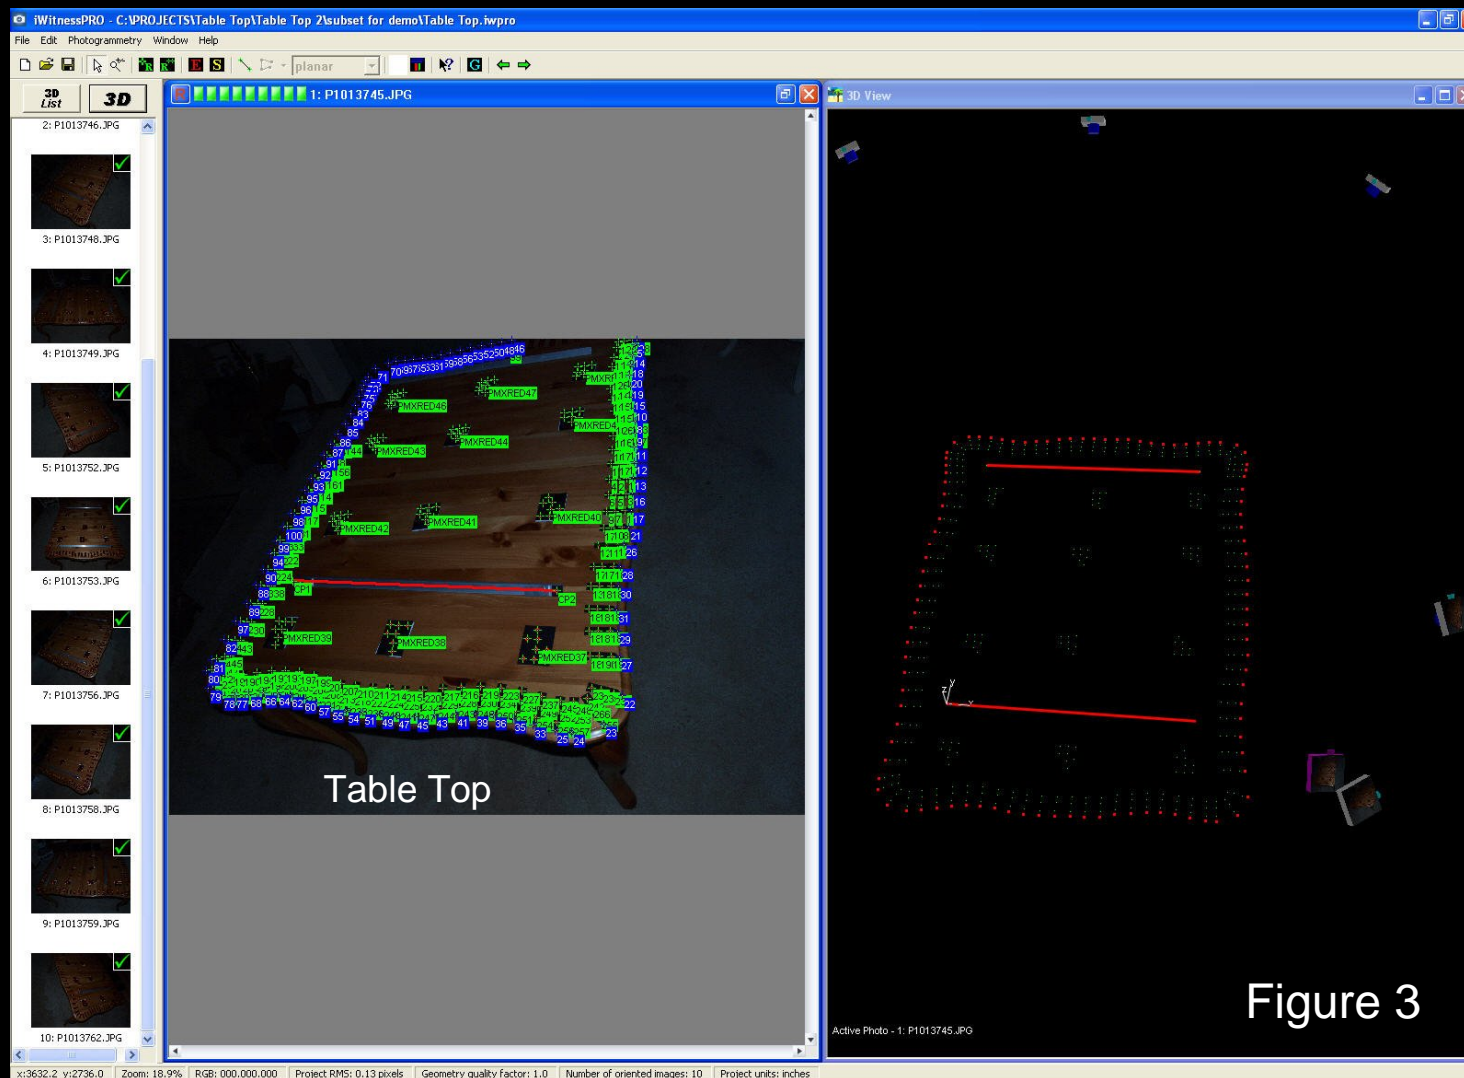

Figure 3
1. **Photograph the project** with the camera settings described in Step 1. Figure 3 used a quantity of 12 coded targets, and two scale bars along with 100 Triplet Offset Targets defining the curved geometry (edges) of the Table Top. Note how the images are taken in a “ring pattern” around the table top. The camera was approximately 1.5 to 2.5 meters from the triplet targets. 10 images were used, but 20 were originally imaged. It is always better to take more photos than less.